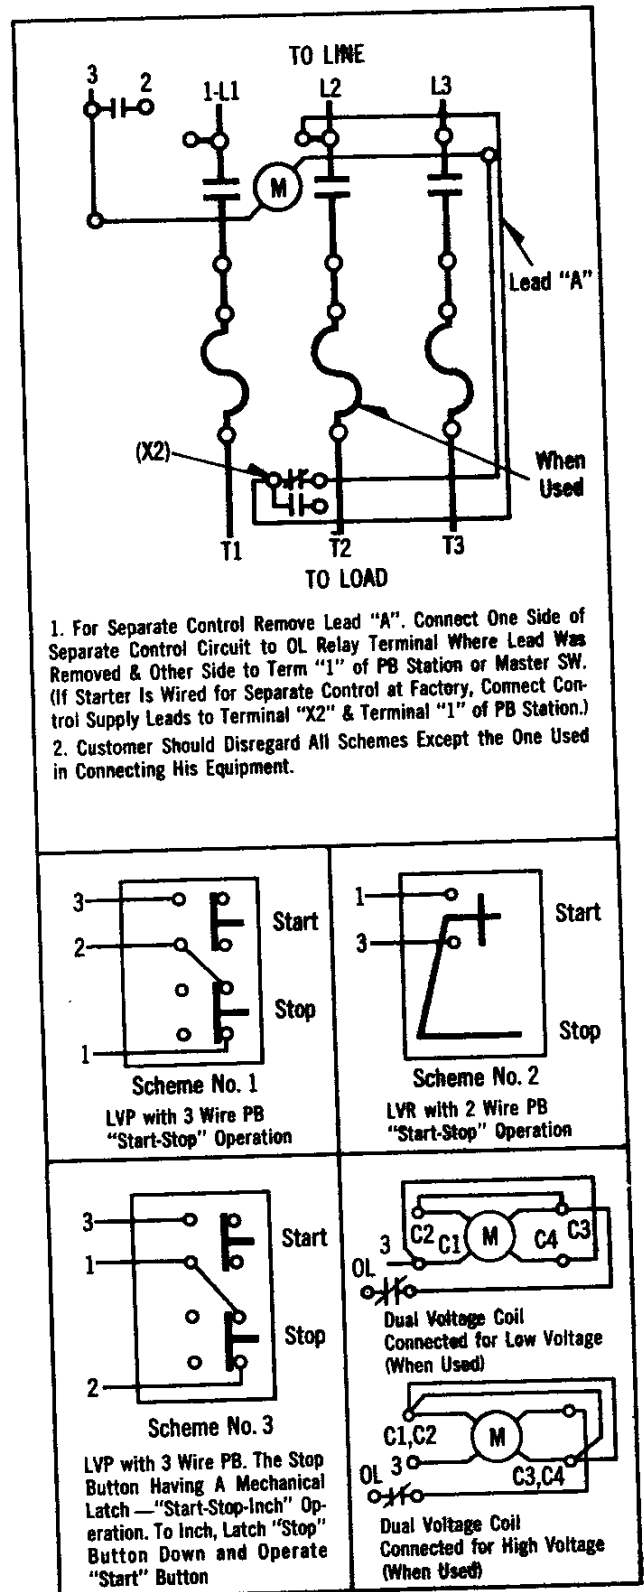

Figure 4 - Wiring Diagrams
The A/200 Series Motor Controller, when wired as shown in Figure 4, will operate as a full voltage starter and will give protection against overload but not against short circuit currents, when provided with overload heaters as listed in the Heater Application Tables or when used with any means of inherent protection activated by motor temperature.
The A/200 Series Motor Controller is available with single or dual voltage coil. When equipped with a single voltage coil, the contactor is wired as shown in Figure 4. A connection diagram for a dual voltage coil is also shown in Figure 4. When supplied with a dual voltage coil, the motor controller is normally wired for the high voltage (HV) connection. The wiring may be changed to the low voltage (LV) connection by removing and reconnecting the jumpers tagged  $C_1 - C_4$  and  $C_2 - C_3$  as illustrated in Figure 4.